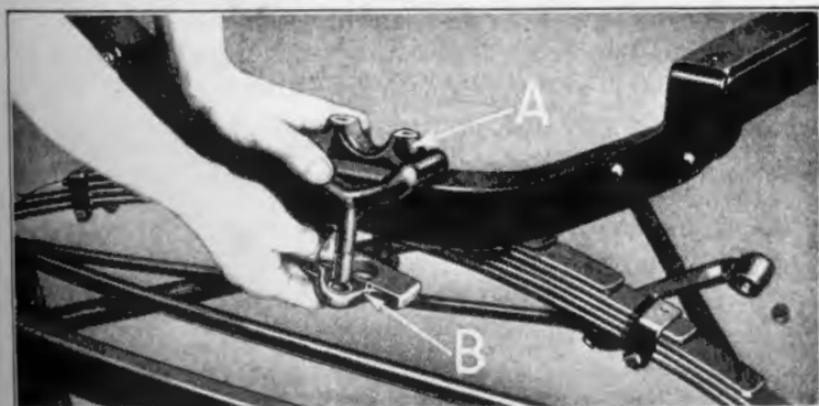

Fig. 64
- 64 **Install crankcase front bearing and spring clip assembly**—Position crankcase front bearing (See "A" Fig. 64) on cross member, inserting spring clip bar "B" over ends of spring clip.